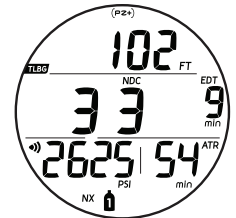

Fig. 92 - NO DECO MAIN
**NO DECO DIVE MAIN**, information includes (Fig. 92):